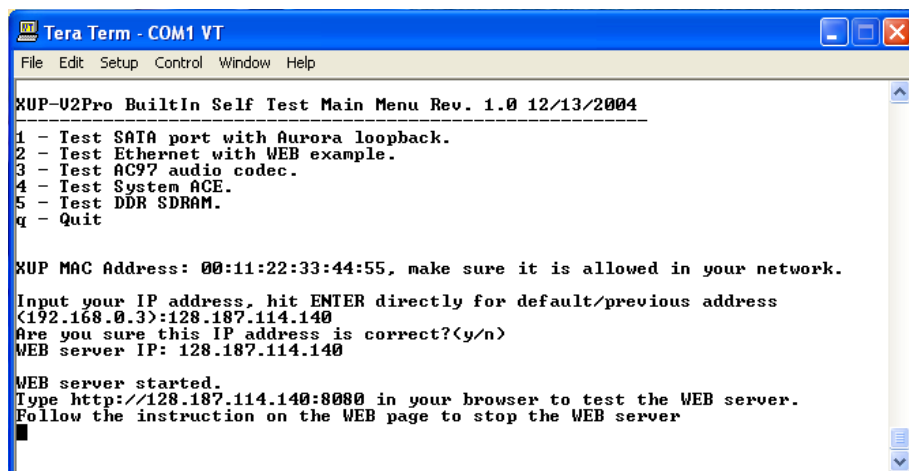

Figure D-12: Web Server Running
- After you press ENTER, you will be prompted to verify your IP address. If you answer "y", the Web server will be started as shown Figure D-12. If you answer "n", you will repeat step 1.